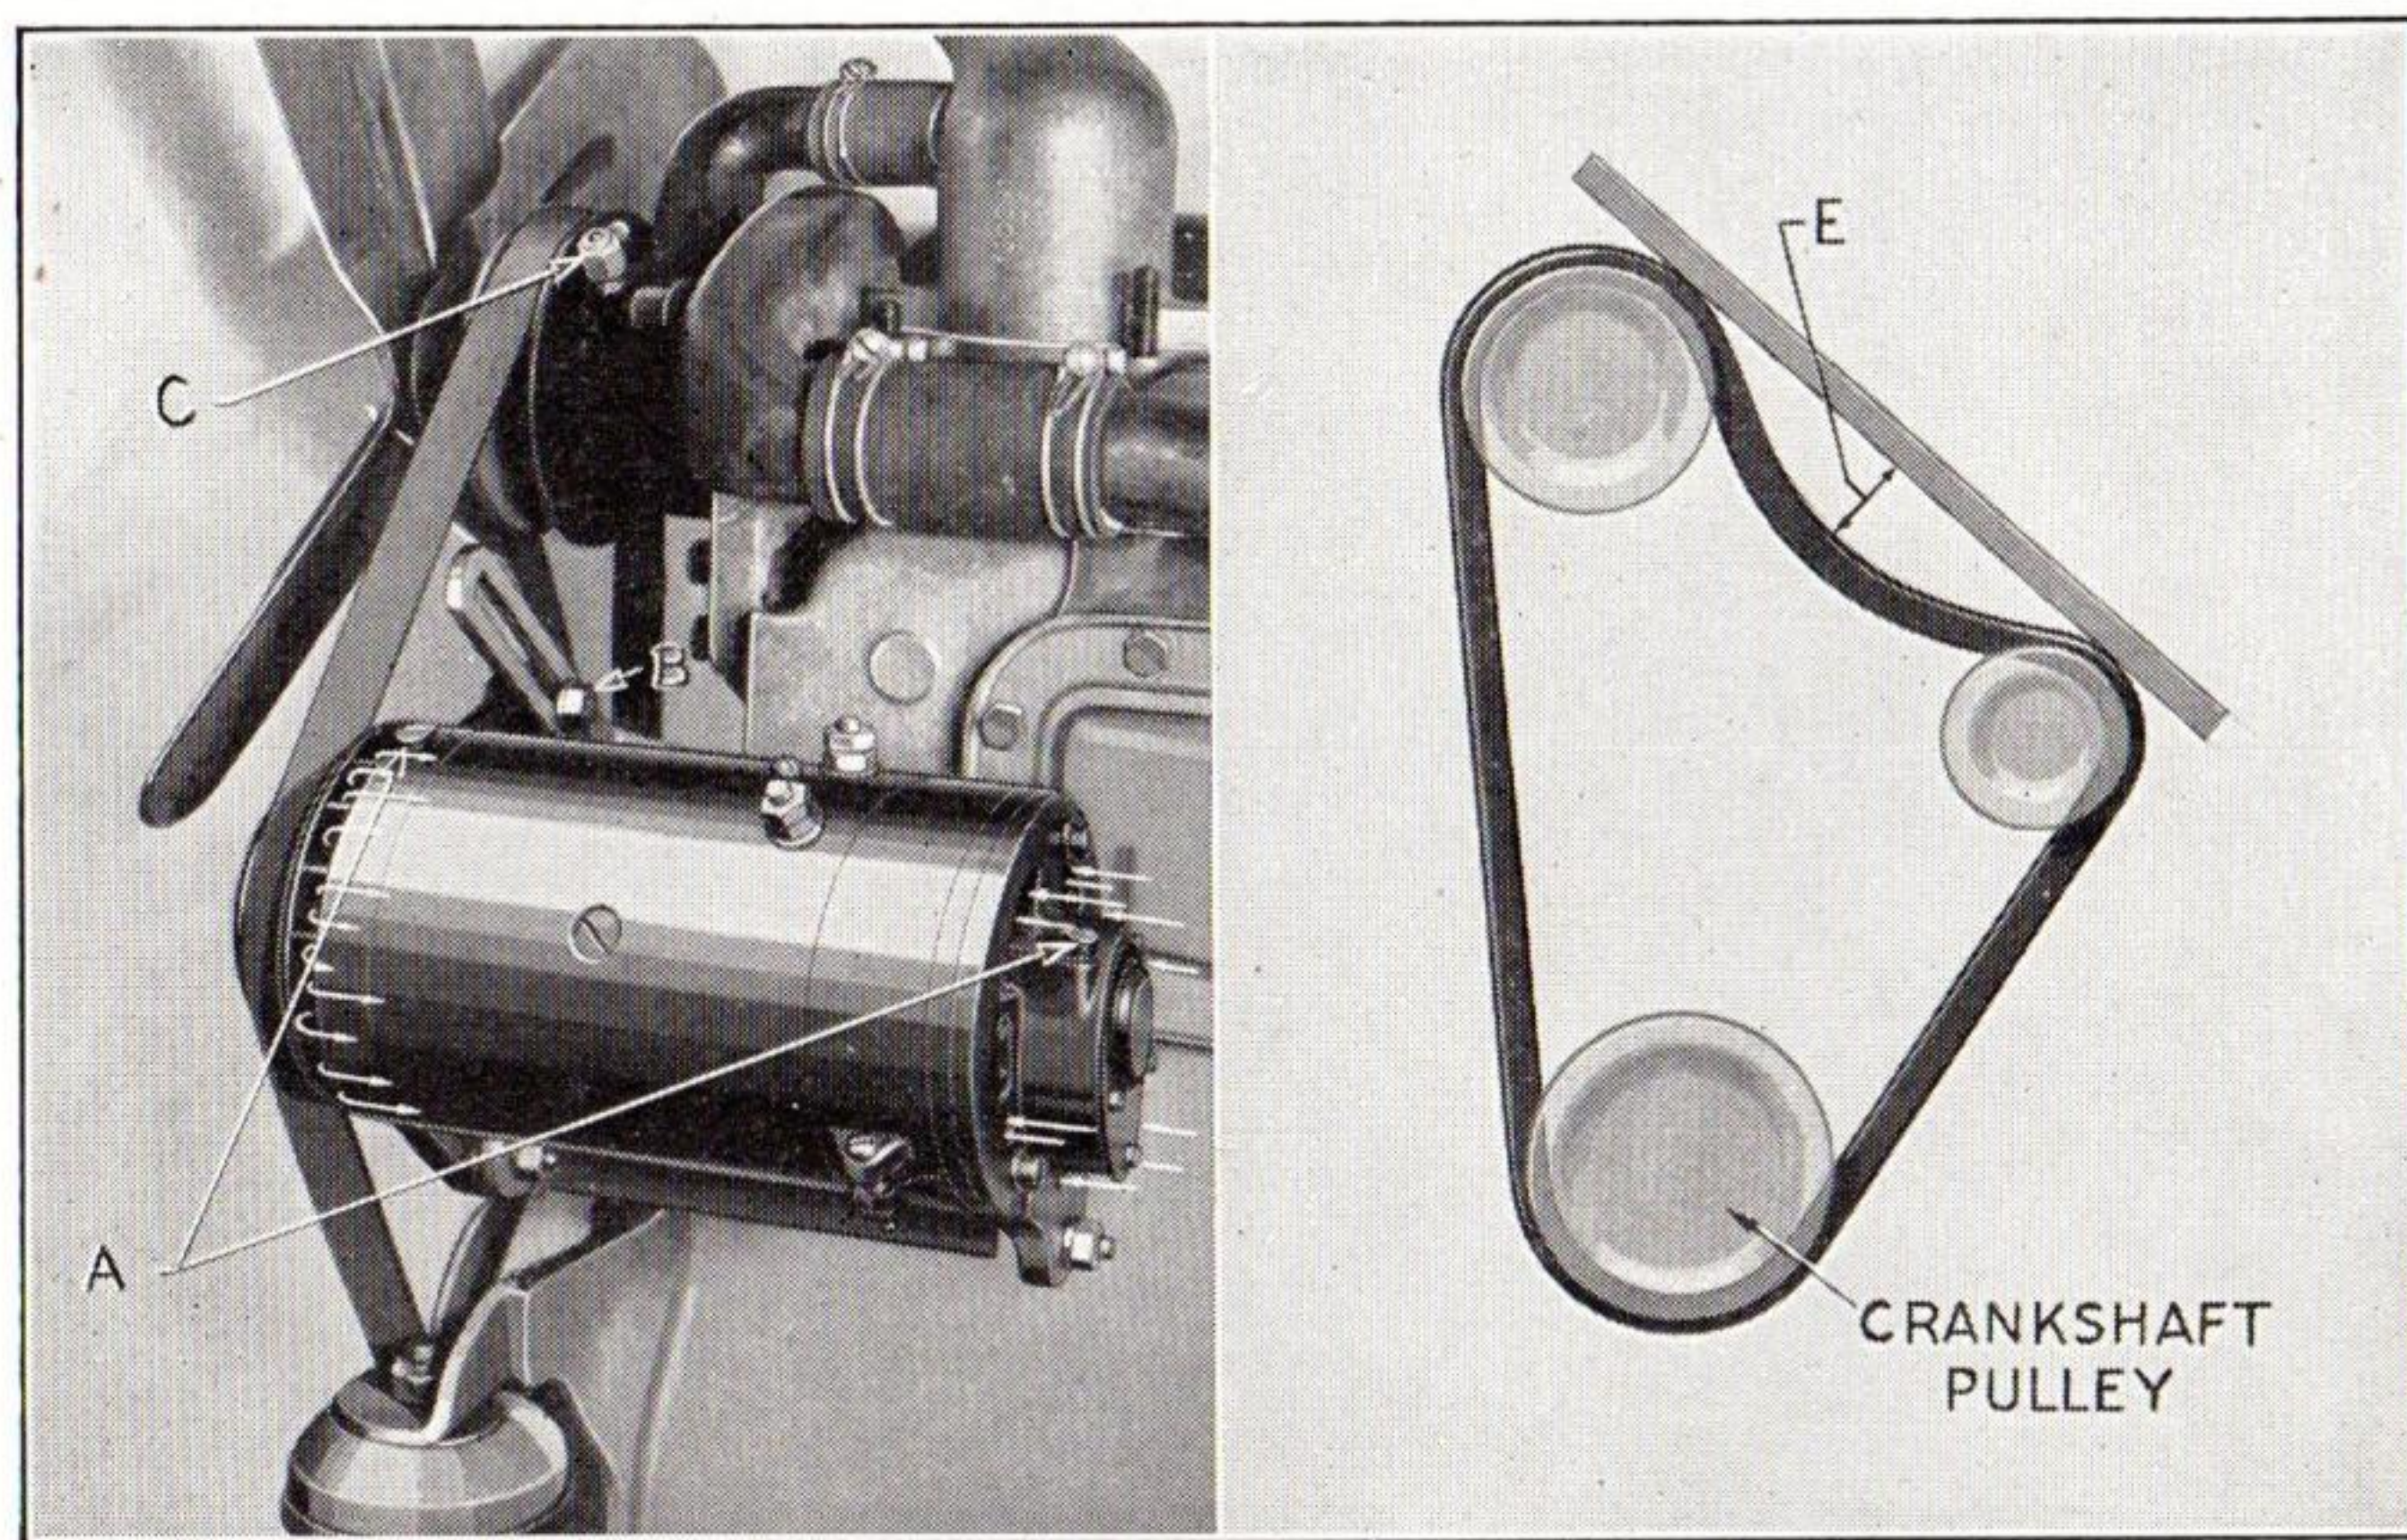

Figure 11
The generator is of the ventilated type, Figure 11, allowing a greater output than is practical with the non-ventilated type. It will be noted from the illustration that air is drawn through the generator from the rear by a suction fan at the front end and is deflected back over the generator by the engine fan.
A few drops of light oil should be supplied to cups (A), Figure 11, every 1,000 miles. Do not over-lubricate.
The generator is driven by the "V" type belt, which also drives the fan and water pump. This belt must be kept sufficiently tight to prevent slippage on the pulleys. When properly adjusted the belt will have $\frac{3}{4}$ " of slack at a point midway between the fan pulley and generator pulley, as shown at (E), Figure 11. This adjustment provides sufficient tightness to prevent slippage without causing undue wear of the fan and generator bearings.
The pump should be lubricated every 1,000 miles through the pressure fitting (C), Figure 11, with a high-grade aluminum soap grease.